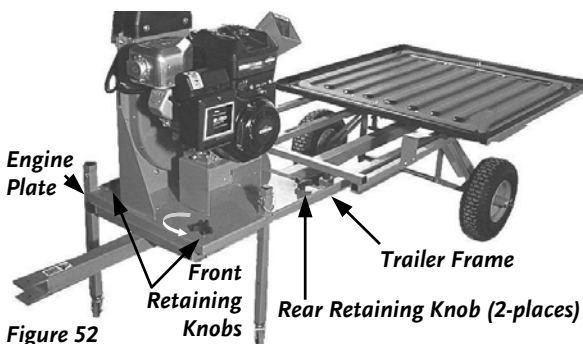

Figure 52
4. - **For the B&S Engine model**, remove (turn counterclockwise) the two (2) Rear Retaining Knobs holding the Engine Plate to the Trailer Frame (*Figure 52*).
- Hold the Trailer Tongue and remove the two (2) Front Retaining Knobs (*Figure 52*), thus preventing the Trailer from falling when you remove the last Knob.
- **For the Subaru Engine model**, remove (turn counterclockwise) the four (4) Retaining Knobs holding the Engine Plate to the Trailer Frame (*Figure 52*).